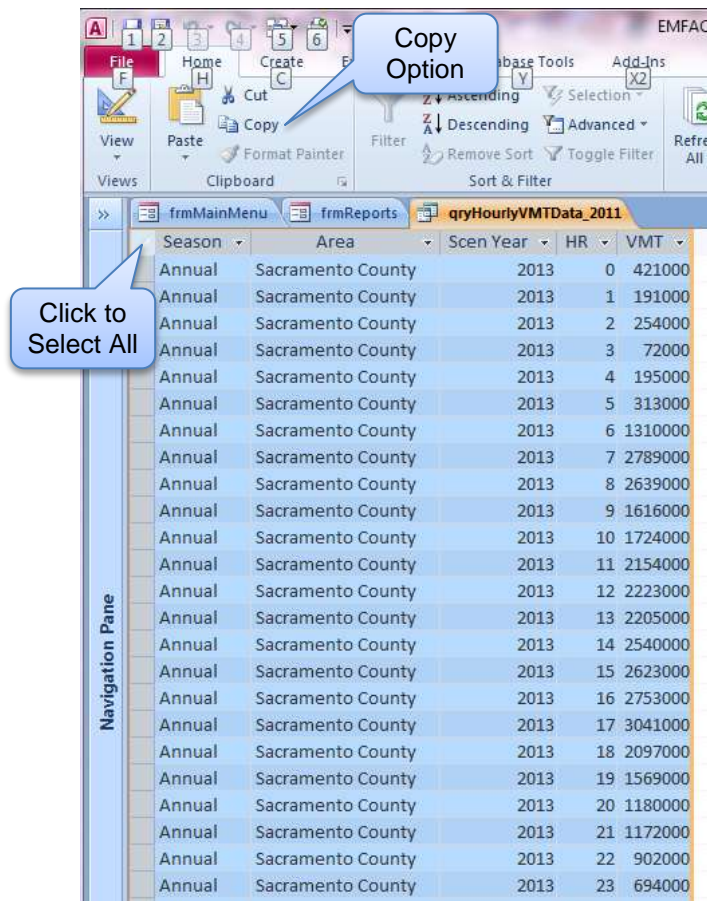

Figure 6-6 Copy VMT Data
- Copy the data by holding down the “Ctrl” key while pressing the “C” key or by clicking the Copy option from “Home” ribbon, see Figure 6-6.